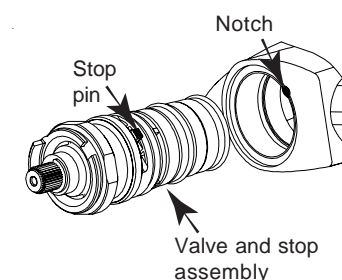

Fig. 6
- Install the assembly cartridge + stop in the body, adjusting the stop pin in the notch (fig. 6).
- Check that the black line is correctly in line with the slot (fig. 6).